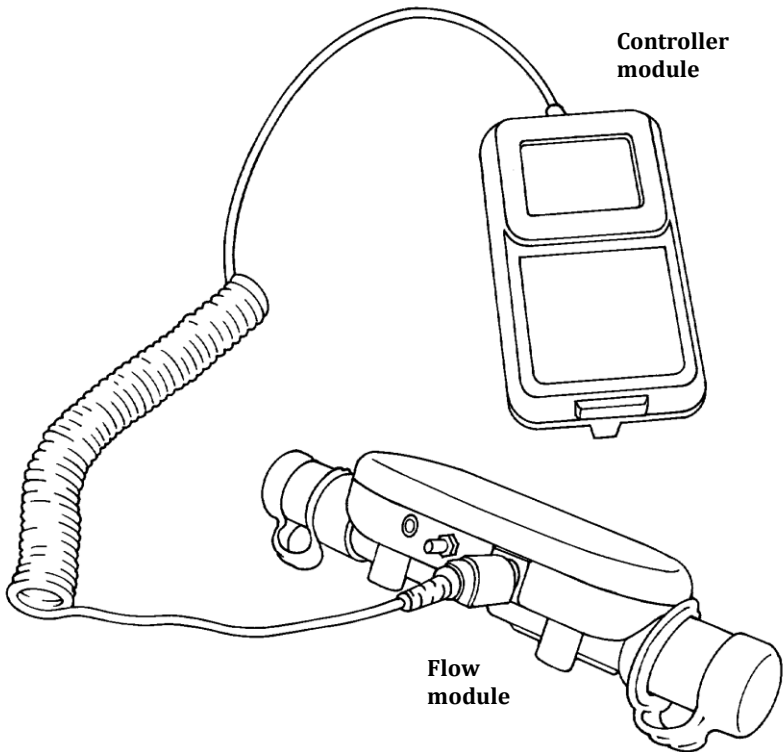

Figure 3. Connecting the Controller Module to a Flow Module
1. Connect the controller module to a flow module (Figure 3).